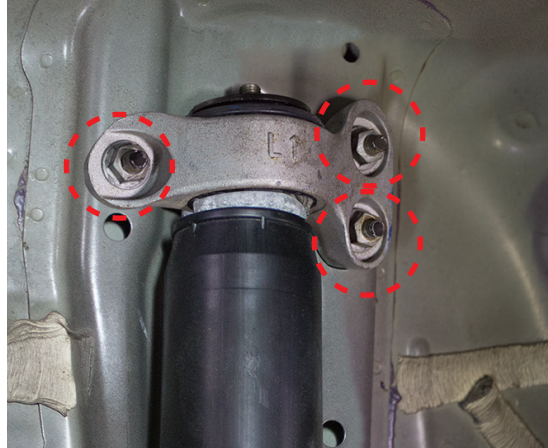

fig. D.3
5. Remove the upper shock nuts (Fig. D.3).